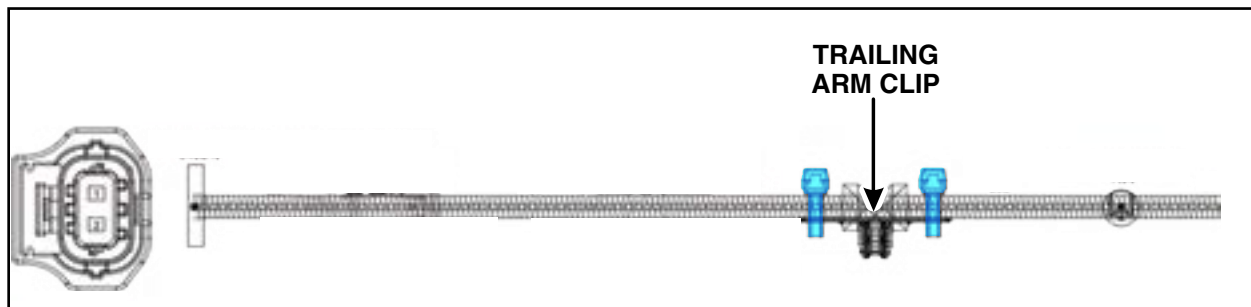

FIGURE 2
5. Separate the trailing arm clip from the trailing arm. Remove the tie straps securing the clip to the harness. See Figure 2.